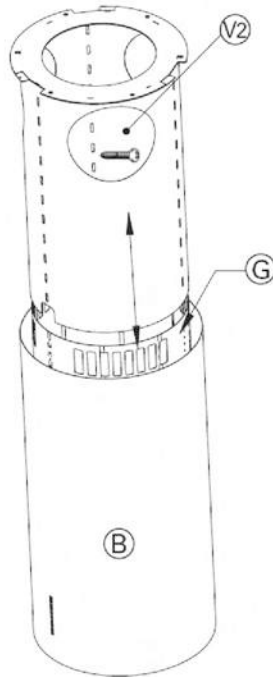

Fig. 2/Abb. 2
- 1) Fasten the chimney + extension + lower internal framework assembly (B+D+G) onto the upper internal framework (C) using the 6 screws (V2). During this operation, the lower internal framework (G) has to slide into the upper framework (C) (Fig. 2).
- 1) Fissare l'assieme camino - prolunga (B+D+G) al traliccio superiore (C) tramite le 6 viti autofilettanti (V2), facendo scorrere il traliccio inferiore (G) internamente al traliccio superiore (C) (fig. 2).